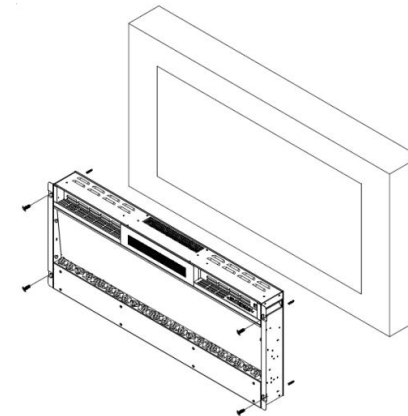

Fig.3
- For optimum viewing, mark the left and right screws ( fixing positions on the wall in accordance with the appliance's holes; See Fig.3